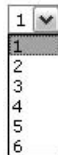

Figure 6-18 — Output selection drop box
1. Click the Output drop box. A drop-down box appears (figure 6-18).